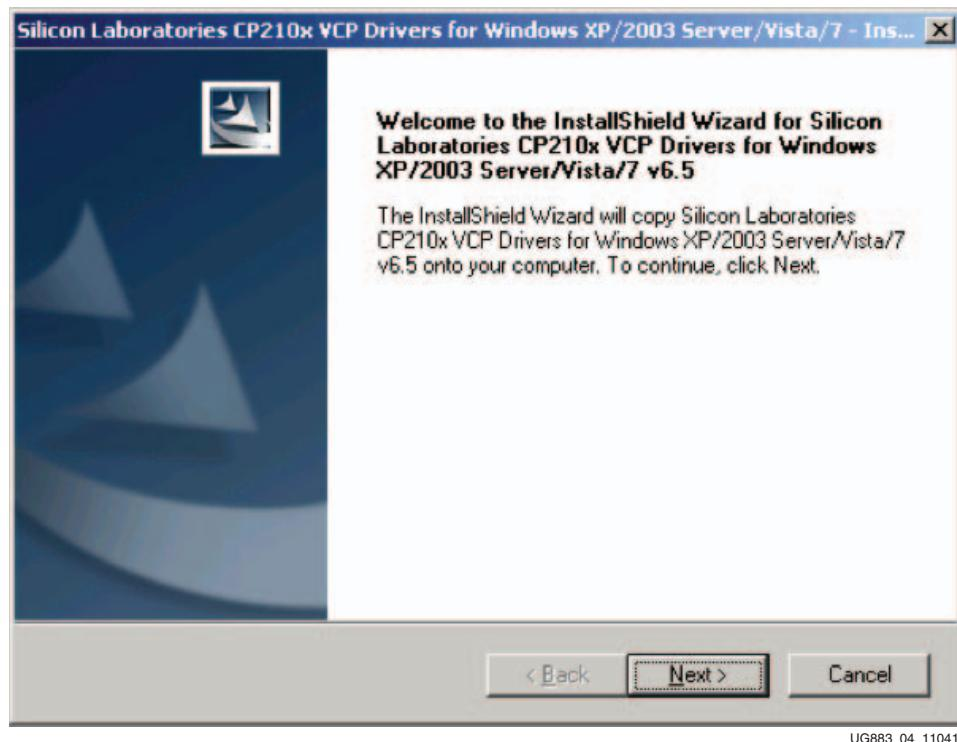

Figure 4: **UART Cable Driver Installation**
1. Run the downloaded executable UART-USB driver file listed in Hardware Test Setup Requirements, page 9. This enables UART-USB communications with a host PC (see Figure 4).